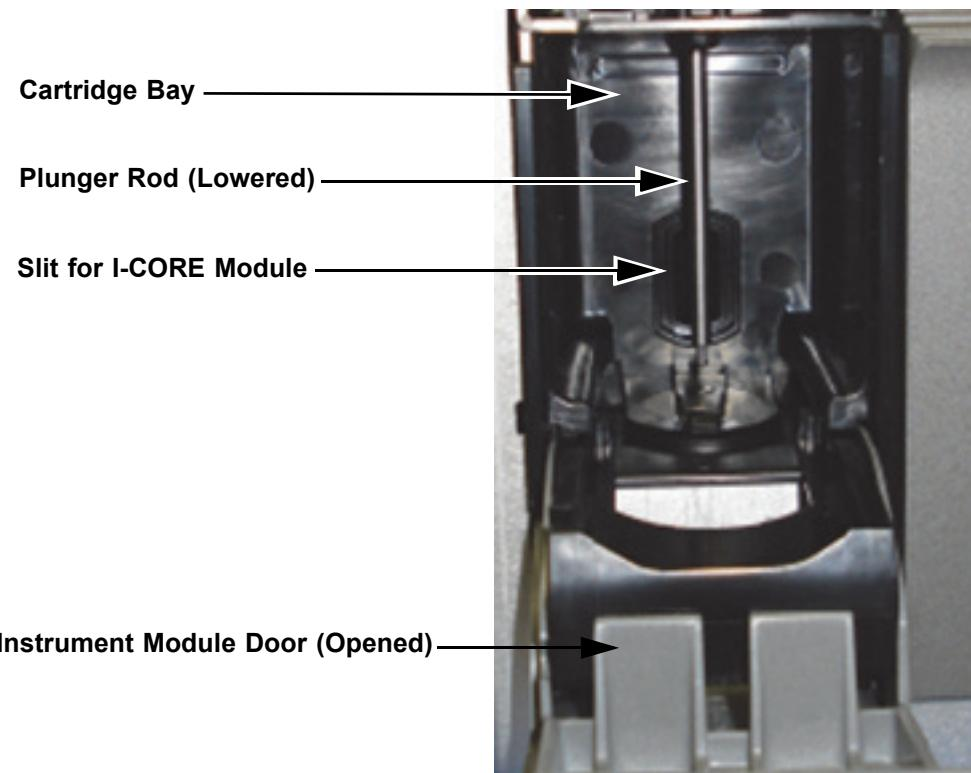

Figure 9-5. Plunger Rod Lowered into Cartridge Bay
6. In the Plunger Rod Maintenance dialog box, the **Clean** button name changes to **Move Up** (if the **Clean All** button is clicked, it changes to **Move Up All**). In the instrument, the plunger rod(s) in the selected module(s) (or all modules if the **Clean All** button is clicked) lowers into the cartridge bay(s). See Figure 9-5.
Getting liquid inside the I-CORE module can damage the module. Do not touch the slit on the I-CORE module where the cartridge reaction tube is inserted (see Figure 9-5).